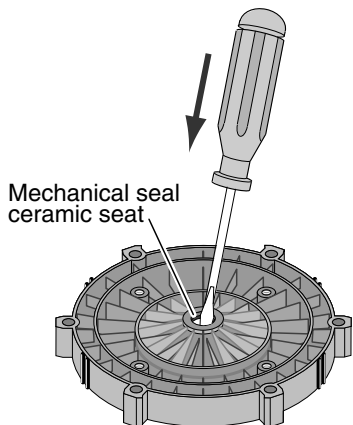

Figure 10
9. Place seal plate face down on flat surface and tap out ceramic seat (Figure 10).